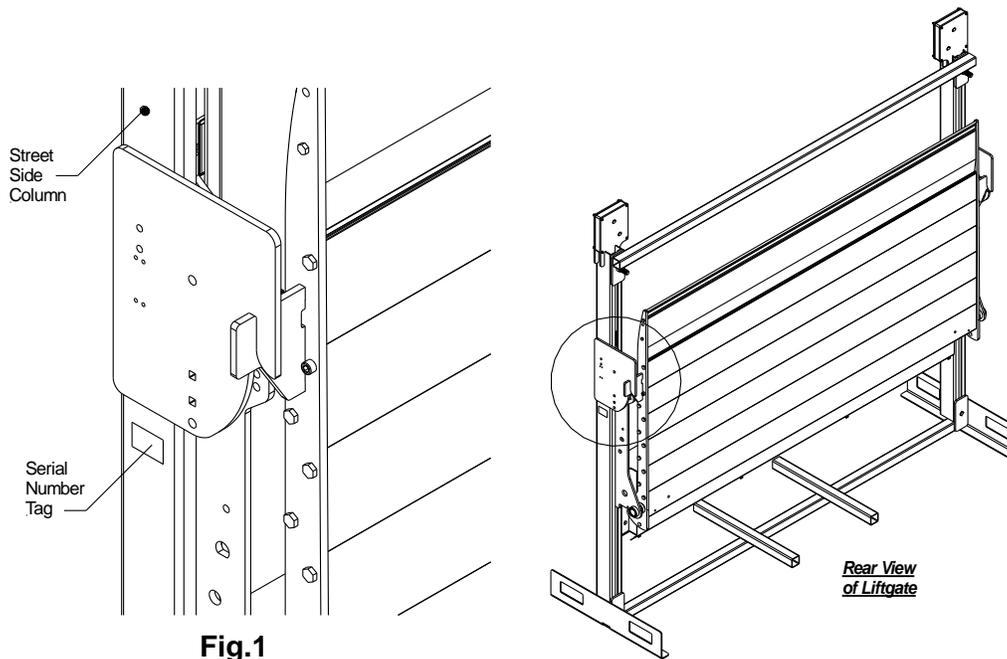

Fig.1
- 1) Refer to the serial number tag on the liftgate located on driver side column, **Fig.1**.